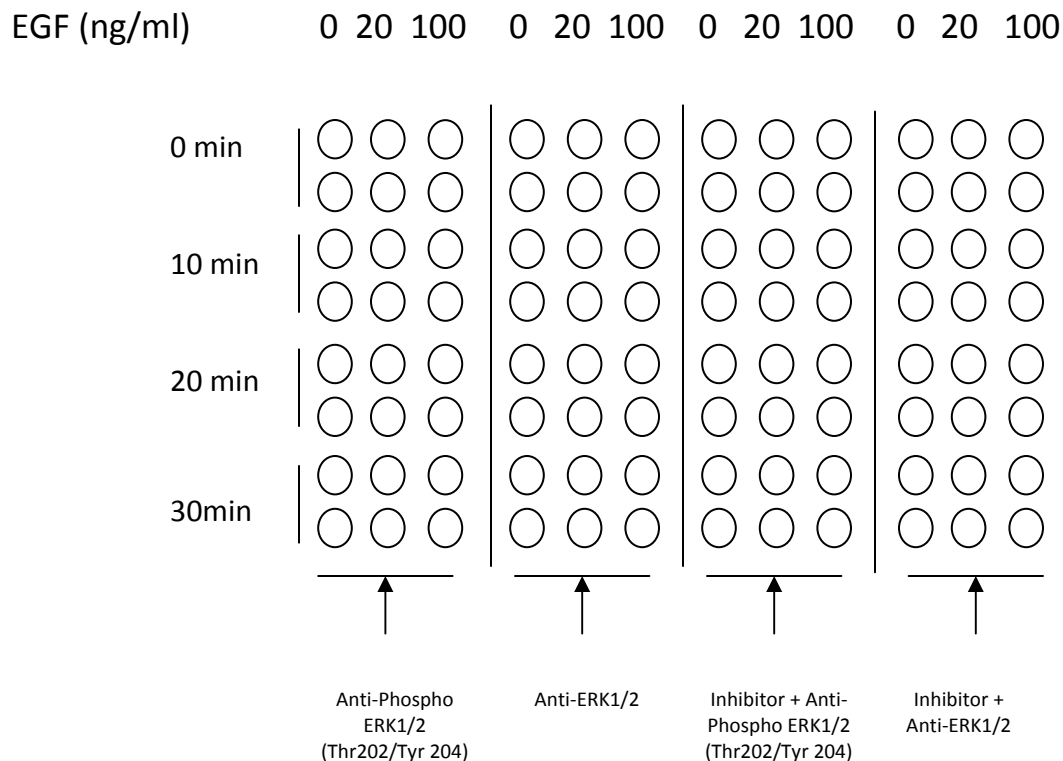

Fig. 2. Example of plate layout for RayBio® cell-based assay
1. Design your experiment. For example, see Figure 2 below.